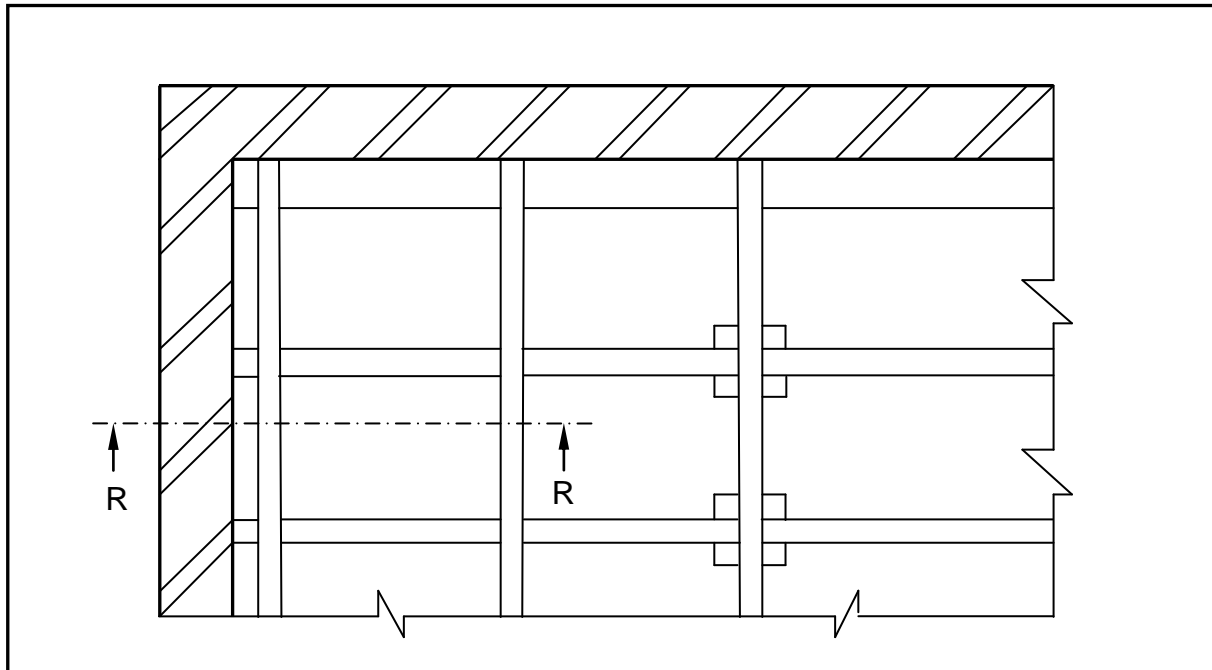

FIGURE 6.7
- 6.7 FIGURE 6.7 below is a drawing of a part of a suspended timber floor plan. Study the sketch and draw on ANSWER SHEET 6.7, to scale 1 : 10, a vertical cross section through cutting plane R-R.